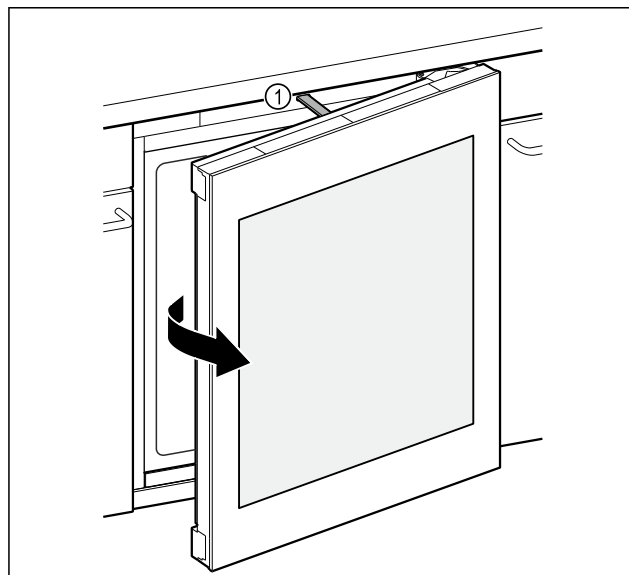

Fig. 85
- ▶ Push rod Fig. 85 (1) opens door approximately 7 cm.